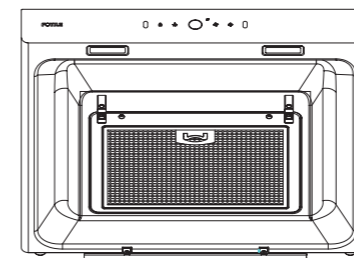
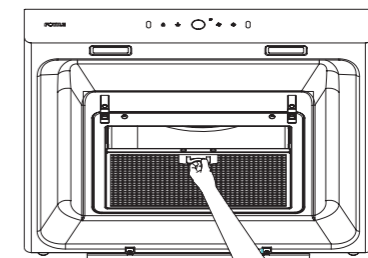

Fig.3
Fig.4
2. Detach the locking tab of the front filter directly, and remove the front filter (see Fig. 3 and Fig. 4);
2. Remove the front filter (see Fig. 3 and Fig. 4);